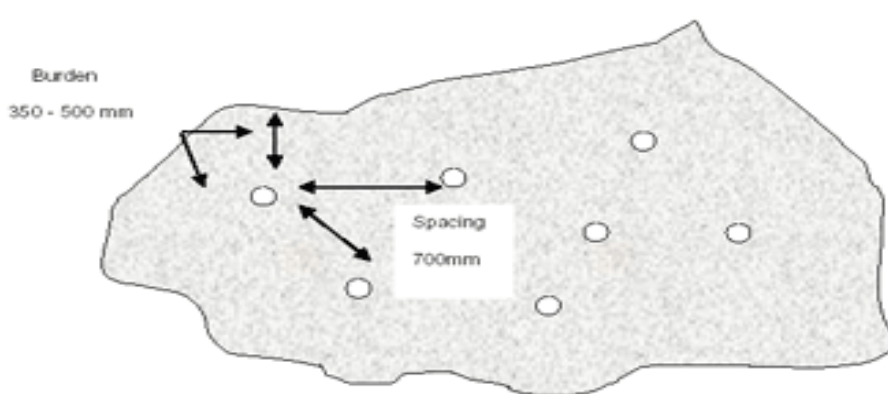

Fig. 7 Horizontal Spacing
- b. Drill the holes perpendicular to the natural crack in the rock (or as close as possible) see Figure 7.
- h. For a small fragmentation keep the burden (distance from the side of the rock) between 350 and 500 mm and the spacing (between holes) 700 mm (figure 7). This is a general pattern and must be adapted to suit the situation.